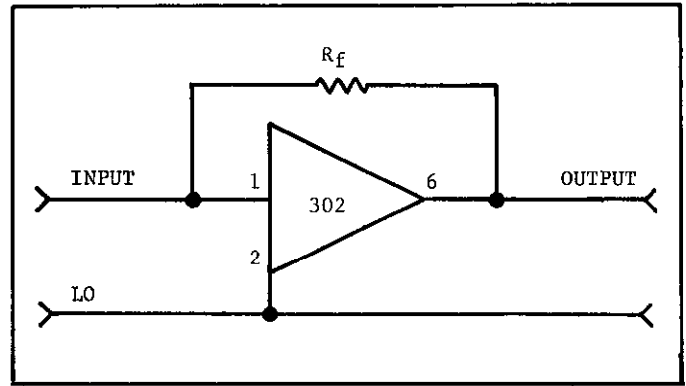

FIGURE 4. Linear Current Amplifier.
a. Linear Current Amplifier. In this configuration, the selected feedback resistor R_f is connected between the Input (Pin 1) and the Output (Pin 6) as shown in Figure 4. Since the maximum amplifier output is +10 volts (nominally), the full range current is determined by the ratio $10/R_f$. Since the offset current for the Model 302 is approximately 10^{-14} ampere, a feedback resistance of 10^{12} ohms is practical.